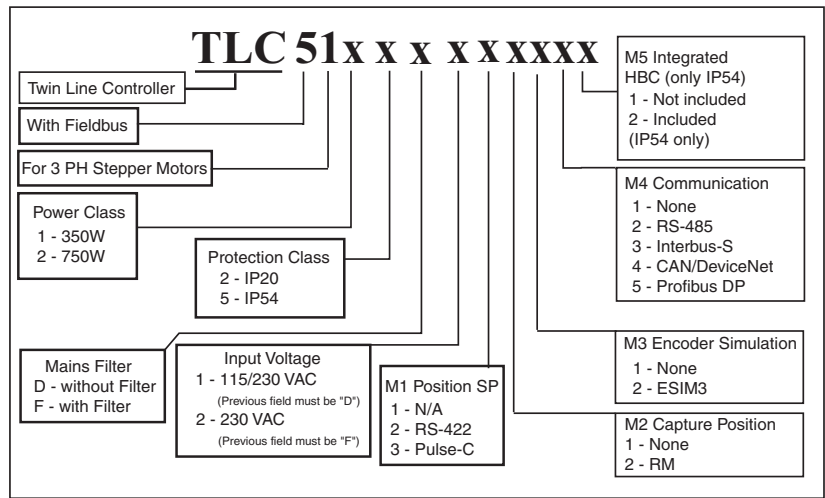

Fig. 1.6 Type code of the controller TLC51x
*Version* Figure 1.6 describes the Twin Line controller configuration management.